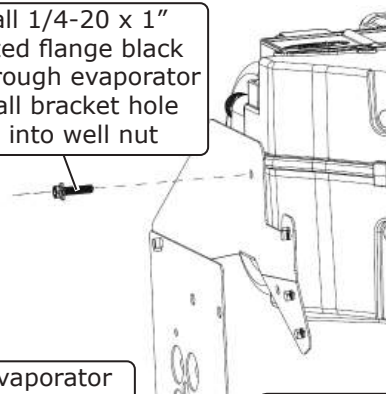

Figure 3
9. Lift and rotate the assembly into position using the 1/4-20 studs to help with alignment. Support the evaporator assembly and install the 1/4-20 x 1" serrated flange black bolt through the evaporator firewall bracket hole and into the well nut into the position shown in Figure 3 and Photo 6, below. This will temporarily support the assembly.